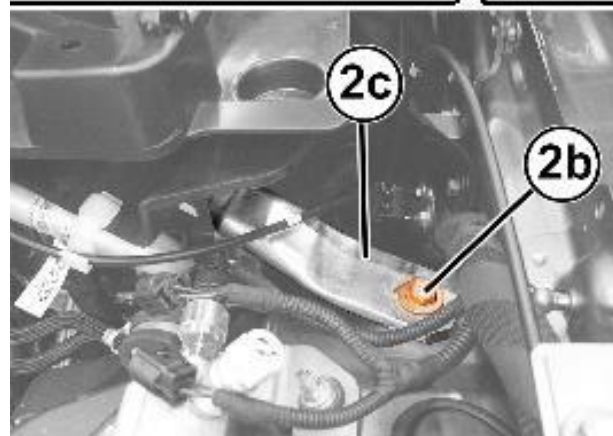

Figure 92 – Body Reinforcement
32. Release the rod (1a) from the retainers (1b) and the band (1c) (Figure 92).
33. Remove the nut (2a) and the screws (2b), and remove the left bar (2c), releasing it from its position (Figure 92).